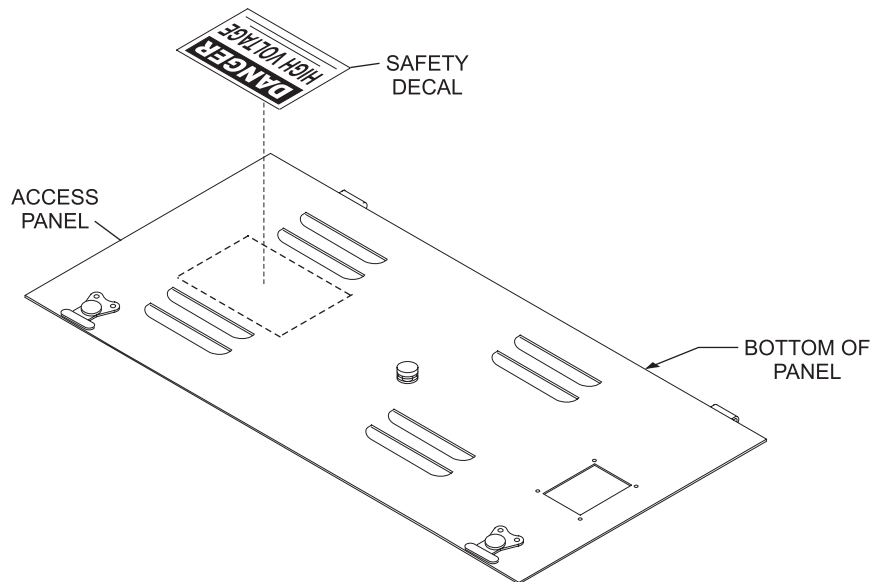

Figure 2
7. On the front of the access panel, adhere the provided safety decal between the main circuit breaker opening and motor overload relay opening. Refer to *Figure 2*.